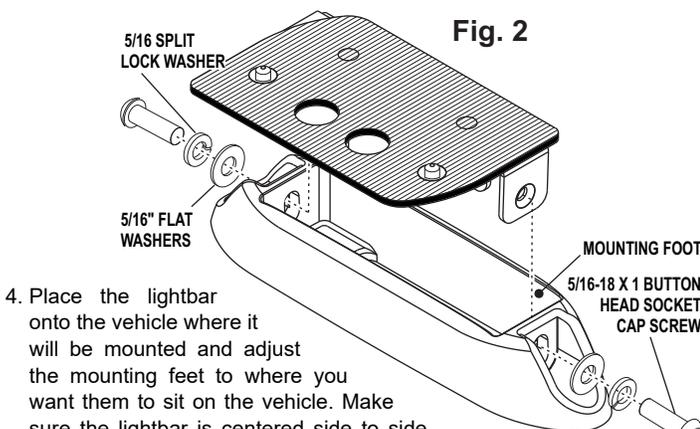

Fig. 2
2. Secure the swivel foot brackets to the mounting feet (Fig. 2).